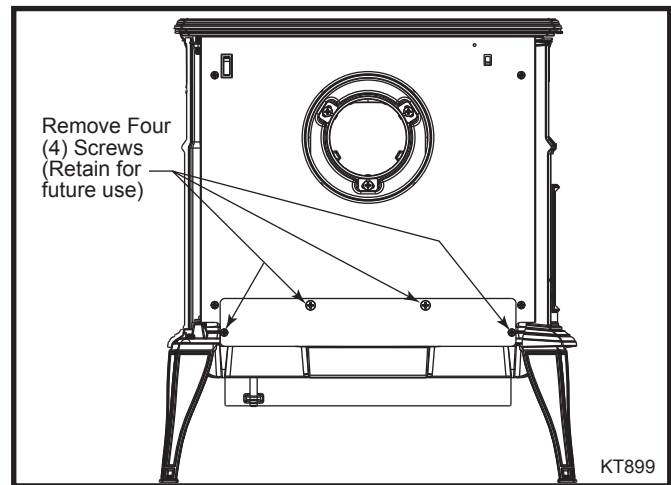

Fig. 13 Remove four (4) screws holding rear fan cover in place. Retain for future use.
1. Remove the rear fan cover by removing the four (4) screws holding the cover in place on the rear shroud. (Fig. 13) Retain the screws for future use.